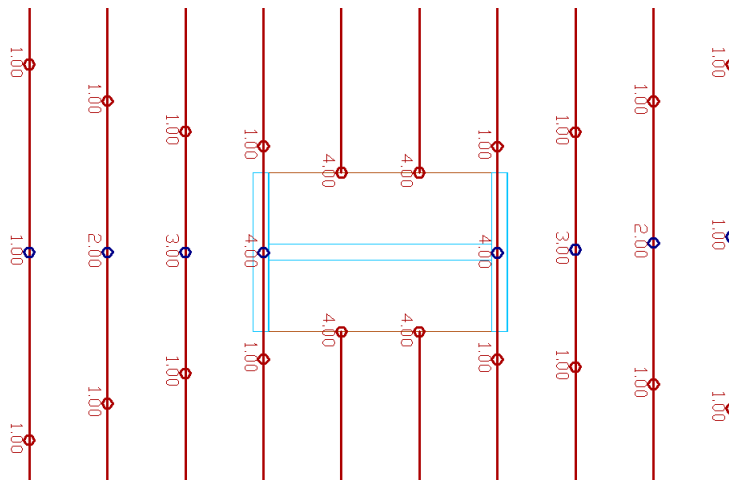

FIGURE 9-83
- Follow the previous step to step down the low point CGS of these tendons until they match the CGS shown in **FIGURE 9-83**.